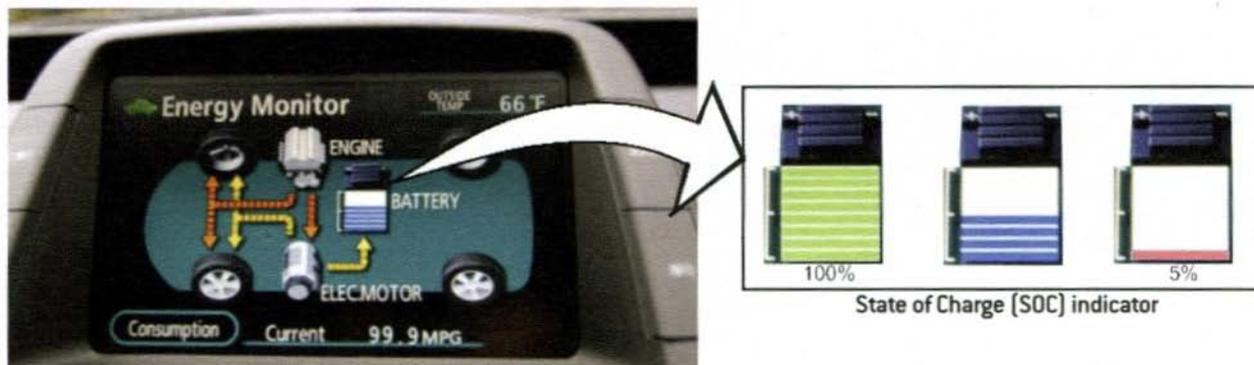

Figure 4 Energy Monitor Display
1. The Prius Energy Monitor displays the L5 PCM's State of Charge (SOC) when the L5 PCM is in operation. The SOC indicates the L5 PCM's available electrical energy as shown in Figure 4. Green is high charge, blue is between high and low charge, and purple is low charge.